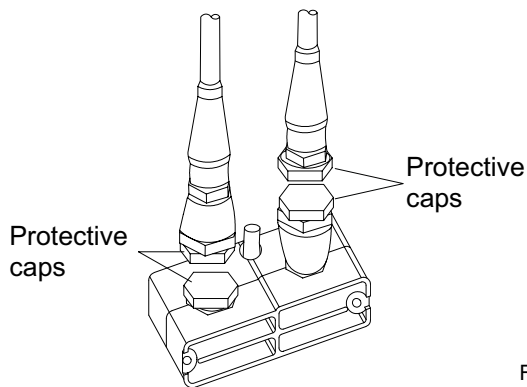

Fig. 16
13. Screw the supplied protective caps onto the 4 coupling halves (Fig. 16).